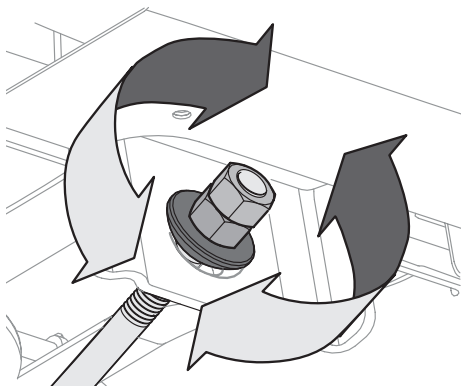

Figure 4-5
4. To *raise* the front of the deck, loosen the outer nut then tighten (thread inward) the nut against the front hanger bracket. See Figure 4-5. When proper adjustment is achieved, re-tighten the outer nut to 25-30 ft.-lbs.
5. To *lower* the front of the deck, loosen the outer nut then loosen (thread outward) the nut, away from the front hanger bracket. See Figure 4-5. When proper adjustment is achieved, re-tighten the outer nut.